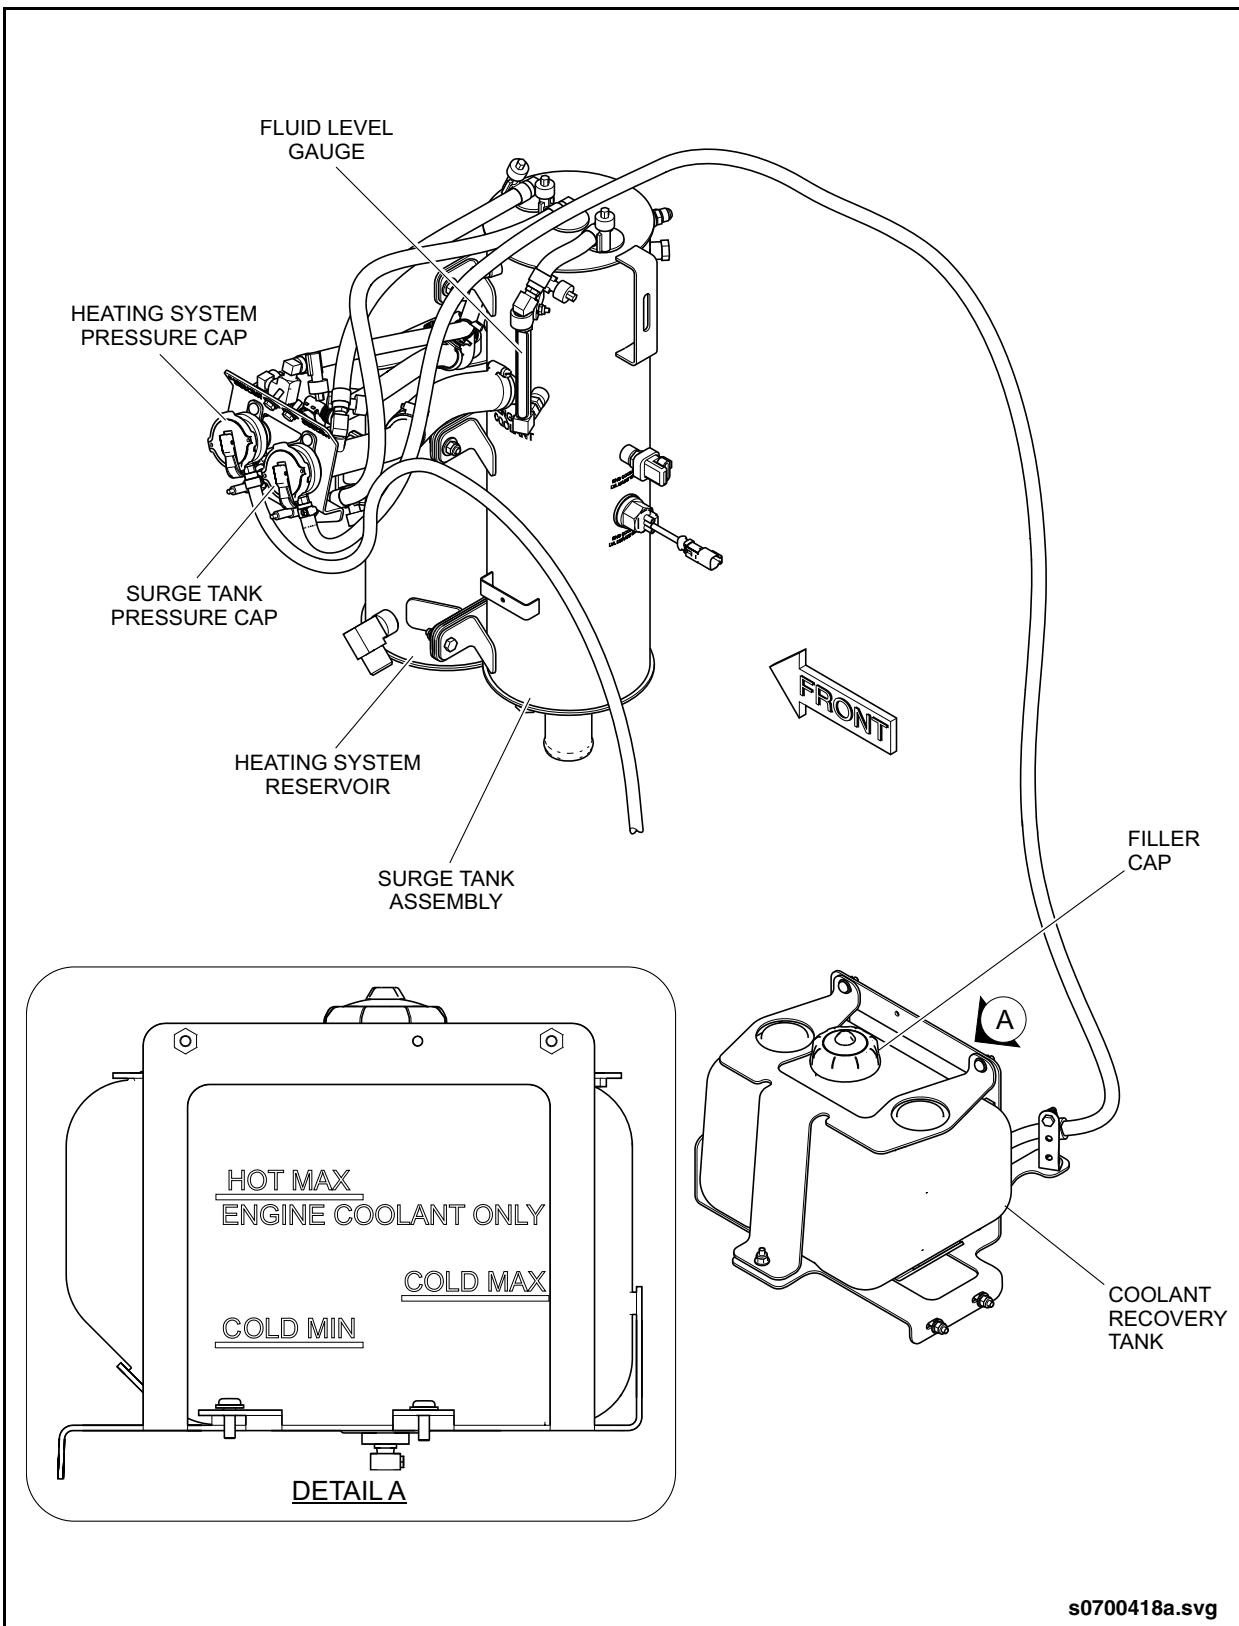

Fig. PM-9: Coolant Level Inspection
- Top off coolant to the correct level as required using premix antifreeze. Refer to 2.36. "Fluid & Lubrication Guide" on page 109 in this section for antifreeze specification. See "Fig. PM-9: Coolant Level Inspection" on page 35.